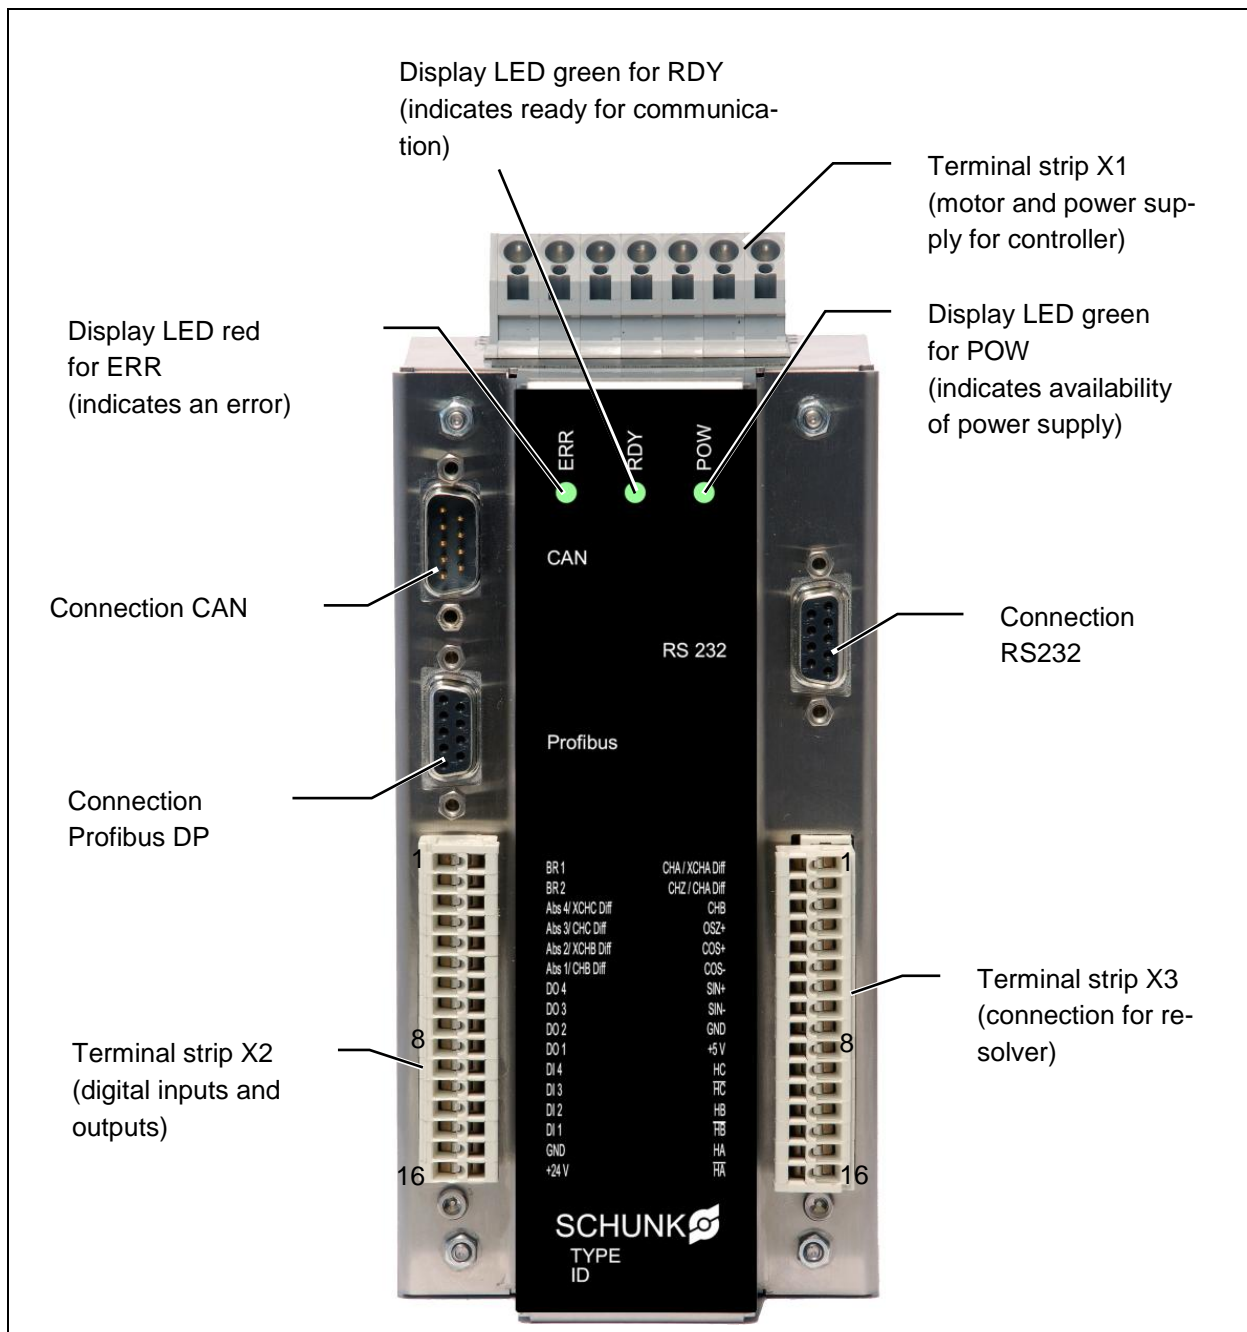

Figure 7 Design of the MCS-12 controller
1. Connect the encoder system (incremental encoder) of the STM to terminal strips X2 and X3 of the MCS-12 controller (for the position of the terminal strips, see Figure 7 page 35; for the pin assignment of the terminal strips, see Table 21, page 39)
**Terminal strip X1** Terminal strip X1 is for connecting the motor phases and the power supply of the controller's power component (for the position of the terminal strips, see Figure 7 page 35)
(for the position of the terminal strips, see Figure 7 page 35)
The connection is established via a 9-pin SUB-D connector from the control system (PC / SPC) to the controller (MCS-12) (for the position of the connector, see Figure 7 page 35)
The connection is established via a 9-pin SUB-D socket from the control system (master) to the controller (MCS-12) (for the position of the connector, see Figure 7 page 35)
The connection is established via a 9-pin Profibus connector from the control system (master) to the controller (MCS-12) (for the position of the connector, see Figure 7 page 35).